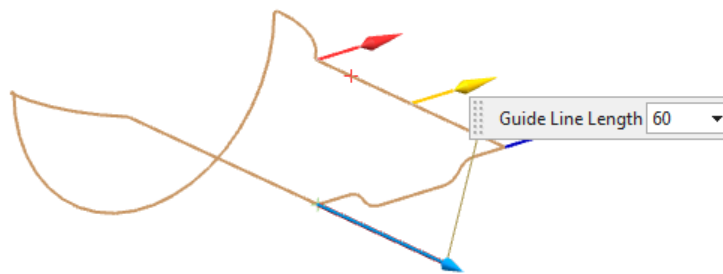
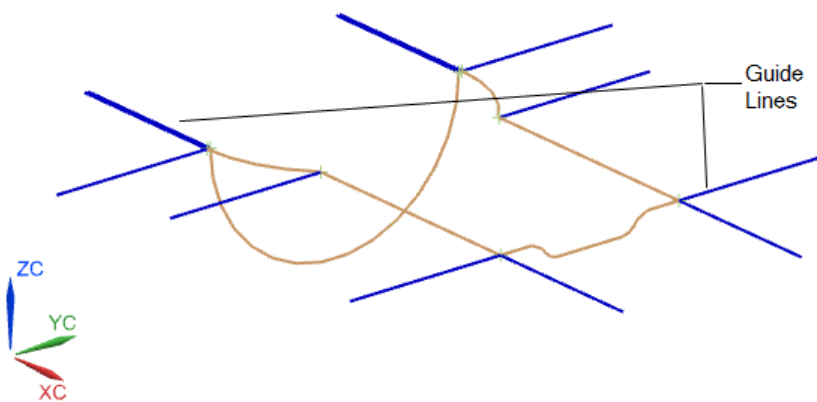

Figure 16-101 The guide line created
Figure 16-102 The guide lines created
3. Expand the **Edit Parting Segments** rollout and choose the **Edit Guide Lines** button. Next, select the parting line; the guide line is created, refer to Figure 16-101. Similarly, create other guide lines, refer to Figure 16-102.